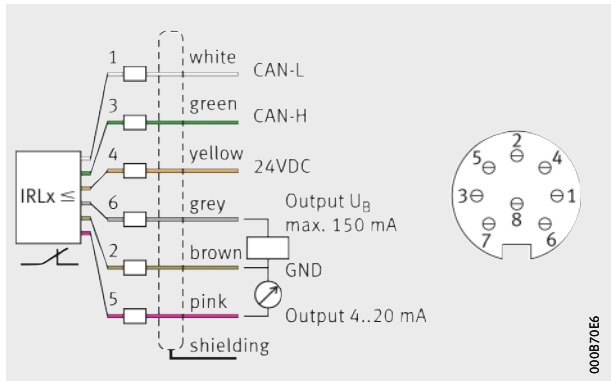

Figure 4
- connection of the connection cable for the electronic evaluation system to the infrastructure according to the plan, *Figure 4*, page 13
- ▶ Connect the supplied plug M12 in accordance with the connection plan to a 6 strand shielded twisted-pair cable with a cross-section of 0,5 mm² and connect the plug to the electronic evaluation system, *Figure 4*, page 13. With a cable length of more than 20 m, signal disruptions may occur in individual cases.
- ① Electronic evaluation system
- ② Mounting screws